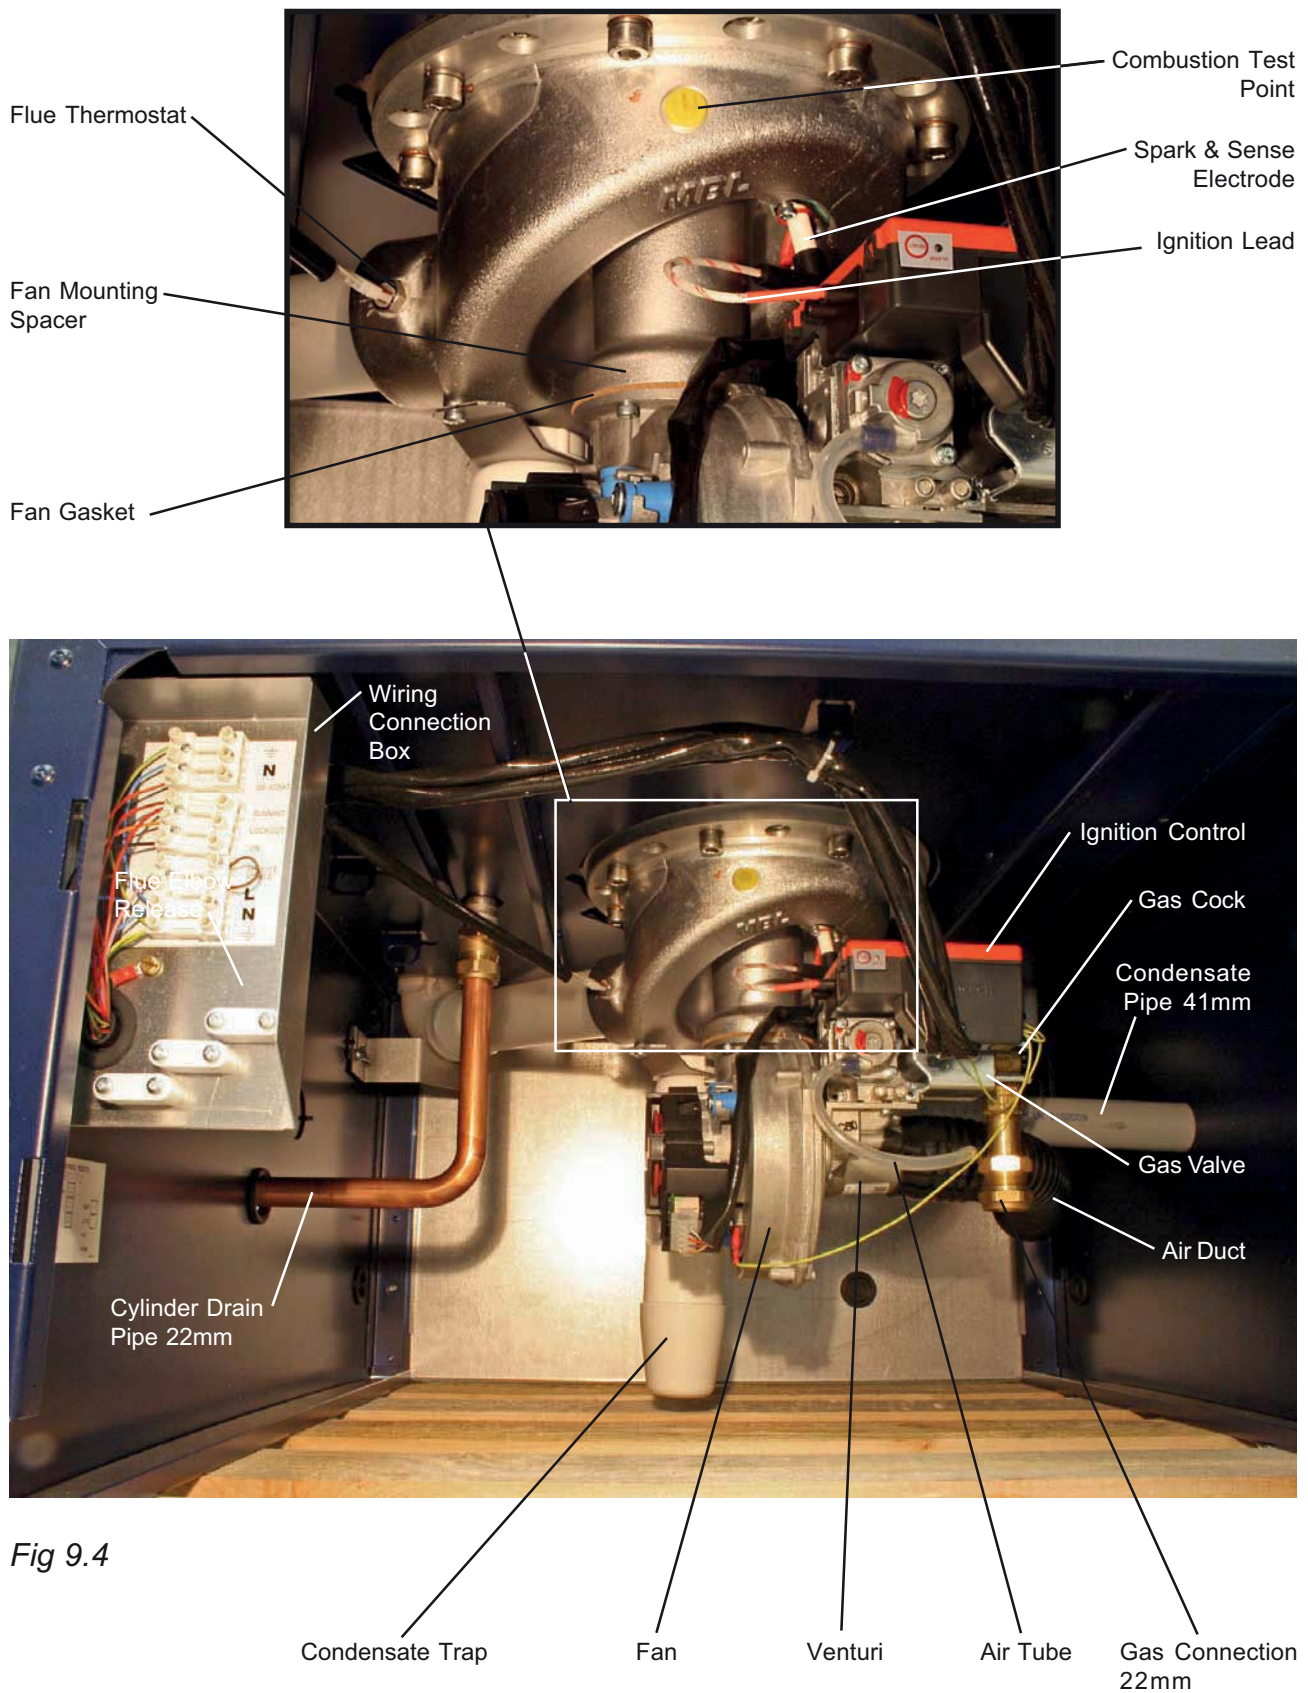

Fig 9.4
#### Flue Thermostat (Fig. 9.4)
#### Ignition Control (Fig.9.4)
#### Electrode & Gasket (Fig.9.4)
#### Gas Valve (Fig.9.4)
### Fan (See Fig. 9.4)
- Ensure the Baffle Plate and Fan Gasket is retained on the Fan Mounting. (Fig. 9.4)
### Venturi (Fig. 9.4)
- Pull off the Air Tube (Fig. 9.4)